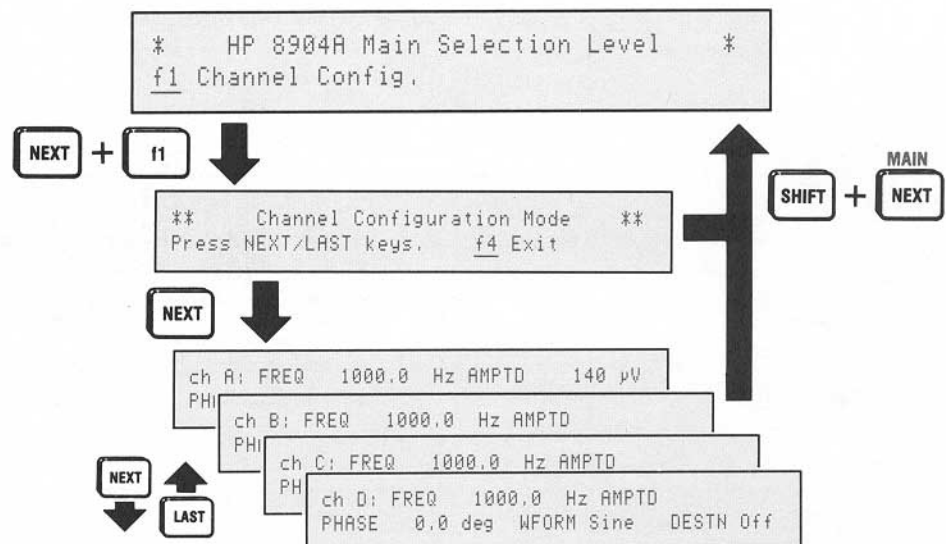

Figure 2-1. All Four Channels Can Be Accessed After You Have Pressed the f1 Channel Config. Softkey.
7. Continue pressing the **NEXT** key to step through the **Configuration displays for Channels B, C and D**. These are the four channels provided by Option 01. Figure 2-1 shows how to access the four channels.